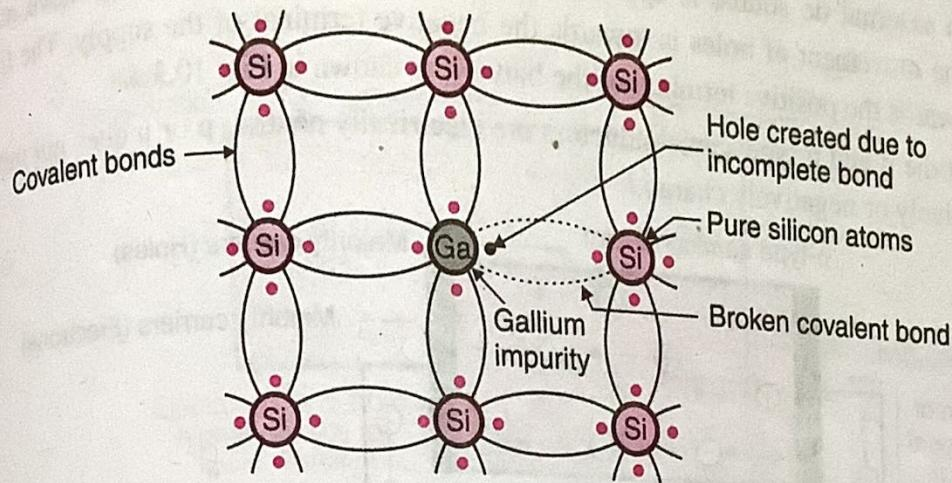

Fig. 10.3.3 : Formation of p-type semiconductor
Examples of "trivalent" materials are : Boron, Gallium and Indium. The effect of adding one of these elements "Gallium" on the base of silicon is as shown in Fig. 10.3.3.
- As shown in Fig. 10.3.3, when a Gallium atom is added to the silicon base, its three valence electrons will form covalent bonds with the valence electrons of three neighbouring silicon atoms.
- The fourth covalent bond however, remains incomplete as the Gallium atom has only three valence electrons. The resulting vacancy is called as a "hole" and it is represented by a small circle in Fig. 10.3.3.